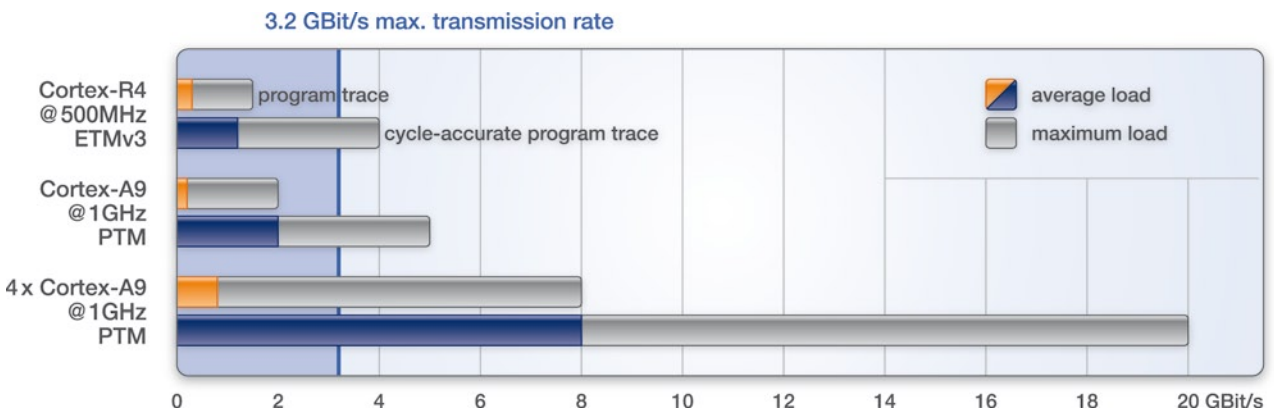

Fig. 8: A transmission rate of 3.2 GBit/s is usually enough to transfer program trace information to the host while it is being recorded.
2. For a realistic estimate of the necessary data rate, you just have to consider the average load at the trace port. Peak loads at the trace port are intercepted by PowerTrace II, which can be considered as a large FIFO (up to 4GB). Fig. 8 shows an overview of the average/maximum load at the trace port for Cortex cores. The application running on the Cortex core ultimately determines the actual load.